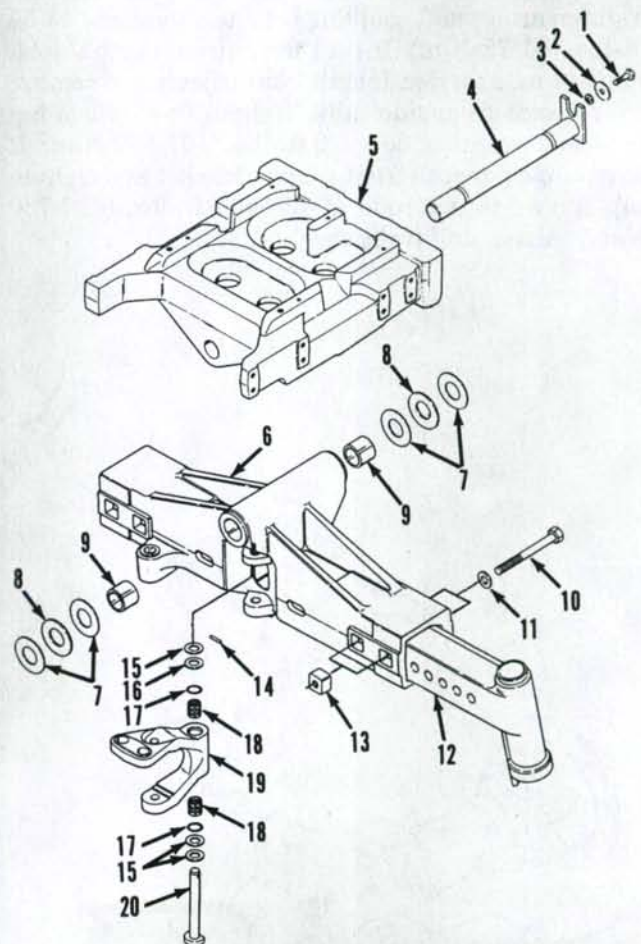

Fig. 3—Exploded view of axle main member, front support and related parts used on all two-wheel drive tractors.
4. To remove the axle main member (6—Fig. 3), first raise and support tractor under engine side rails with
**5. REMOVE AND REINSTALL.** To remove the front support (5—Fig. 3), first remove hood, grille and side panels. Disconnect air intake hose. Drain radiator and disconnect front wiring harness connector. Disconnect upper and lower radiator hoses, coolant filter hose and coolant recovery hose. Disconnect ether starting line from intake manifold. Remove hoses from clip on radiator, then remove air conditioning condenser and lay back on top of engine. Identify and disconnect oil cooler lines and remove oil cooler. Attach a hoist with lift straps to radiator support. Unbolt radiator support from front support and tilt radiator forward to clear fan as the assembly is removed.